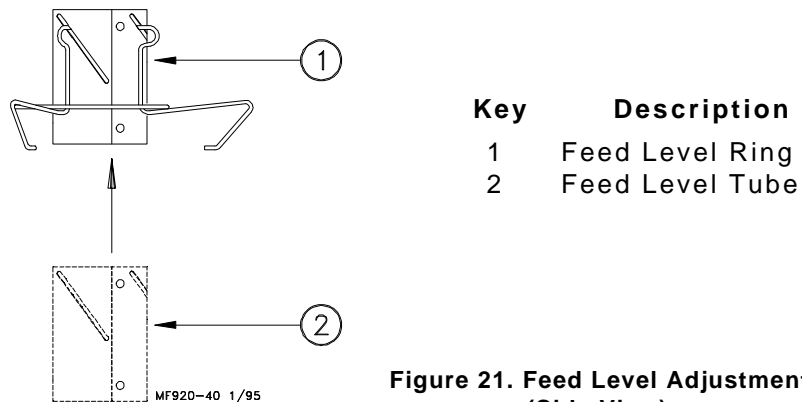

Figure 21. Feed Level Adjustment Procedure. (Side View)
1. Assemble a Feed Level Tube into a Feed Level Tube Ring by inserting the tube up into the ring as shown in Figure 21.